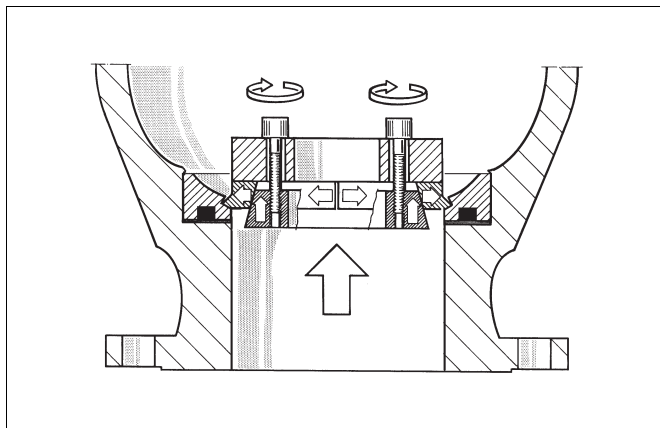

Fig. 17 Removing a locked seat
- ❑ Remove the seat (7) from the body cap making sure that it is not damaged during the operation. If the seat is of a locked type, use a special tool which can be ordered from the manufacturer (see Figure 17 and Section 8 'Tools').